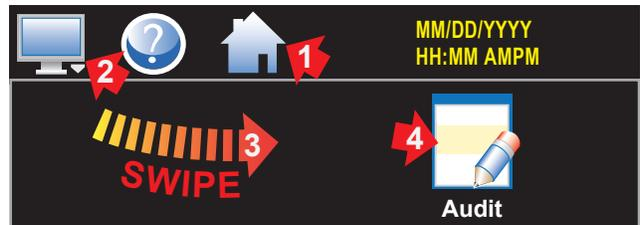

Figure 18. Audit Icon
1. Touch: (1)Home (2)Monitor (3)swipe screen left-to-right, touch (4)Audit icon (Figure 18).